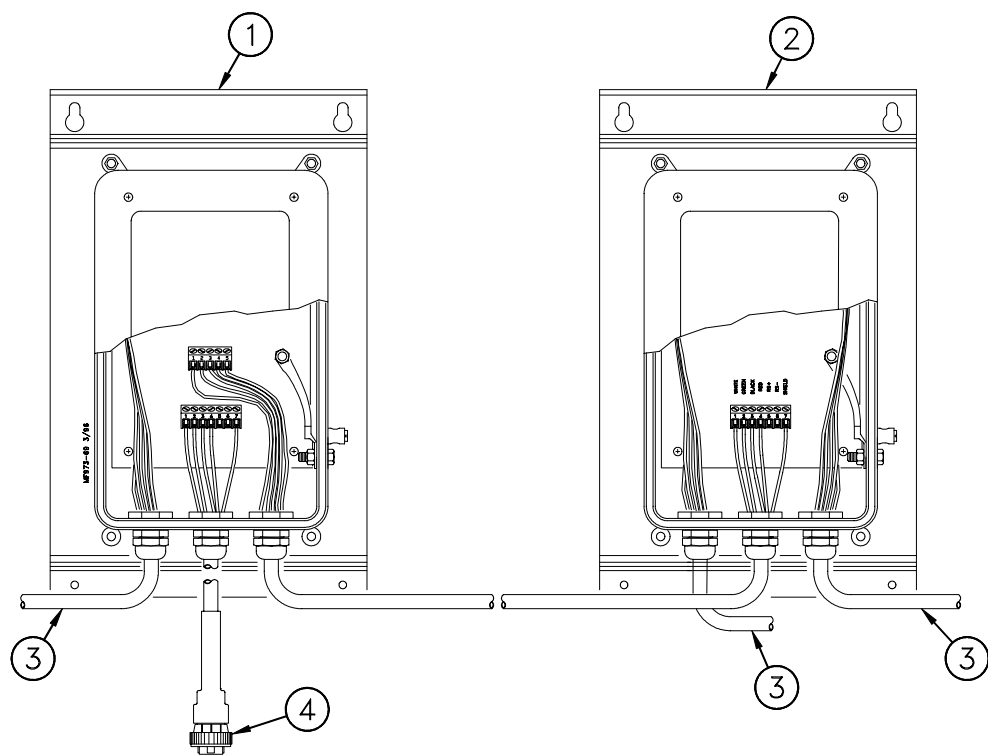

Figure 14. Duplex Kit Installation (front view)
Scale systems that use more than (4) Load Cells require the Duplex Kit. See Figure 14.
For example a scale using (6) Load Cells would have (4) Load Cells wire into box “A” and (2) Load Cells wired into box “B”. The wire from box “B” must be routed to the horizontal terminal block in box “A”. Route the wire from box “A” to the J902 Indicator. See Figure 14 on page 29.